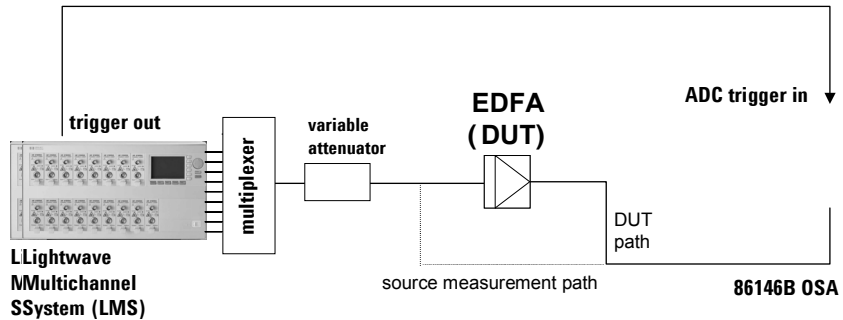

Figure 1-7. TDE setup for the patchcord configuration
As with ISS, there are two possible equipment configurations as in Figure 1-1 and Figure 1-2. The main difference is the trigger signal from the synchronously modulated source is required for the OSA. Figure 1-7 is the TDE setup for the patchcord configuration for source measurement.
If an additional mainframe is used, a BNC cable can connect its input trigger to the master mainframe. Then this mainframe’s trigger configuration should be left on default and all modules set to modulate on the backplane. A BNC cable is required from the slave mainframe Input Trigger to the Output Trigger of the Master mainframe. Finally, as indicated on Figure 1-7, a BNC cable is required from the Source Trigger Out to the OSA ADC Trigger.
- 1 Connect the amplifier as shown in Figure 1-7.